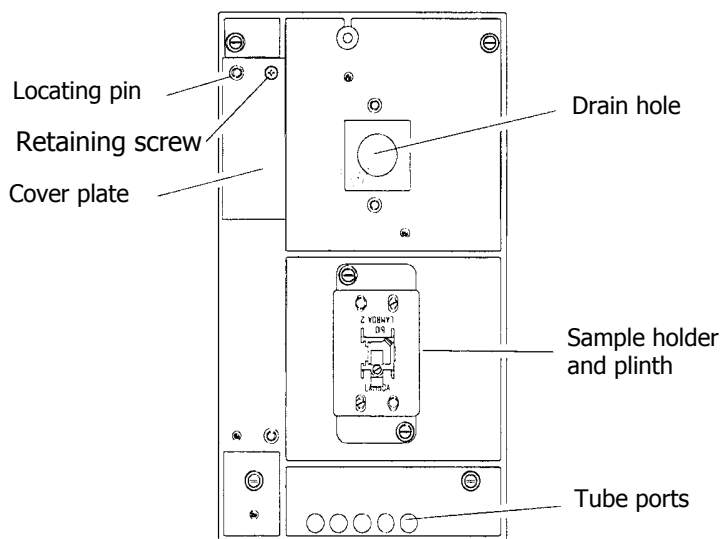

Figure 27 Baseplate of the high-performance Lambda spectrometer sample compartment
1. Orientate the holder so that the word **LAMBDA** is toward the front of the sample compartment (see Figure 27).